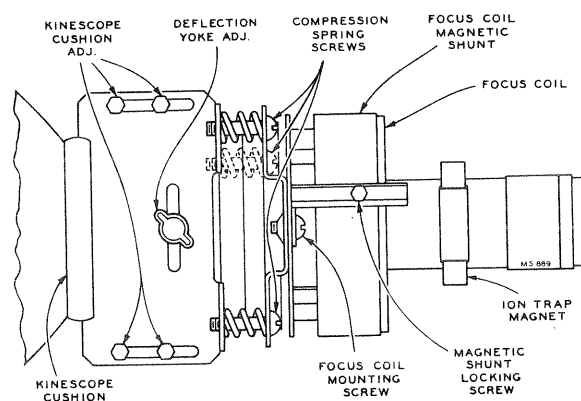

Figure 2—Yoke and Focus Coil Adjustments
**ION TRAP MAGNET ADJUSTMENT.**—Set the ion trap magnet approximately in the position shown in Figure 2. Starting from this position adjust the magnet by moving it forward or backward at the same time rotating it slightly around the neck of the kinescope for the brightest raster on the screen. Reduce the brightness control setting until the raster is slightly above average brilliance. Adjust the focus control (R191 on the chassis rear apron) until the line structure of the raster is clearly visible. Readjust the ion trap magnet for maximum raster brilliance. The final touches on this adjustment should be made with the brightness control at the maximum position with which good line focus can be maintained.